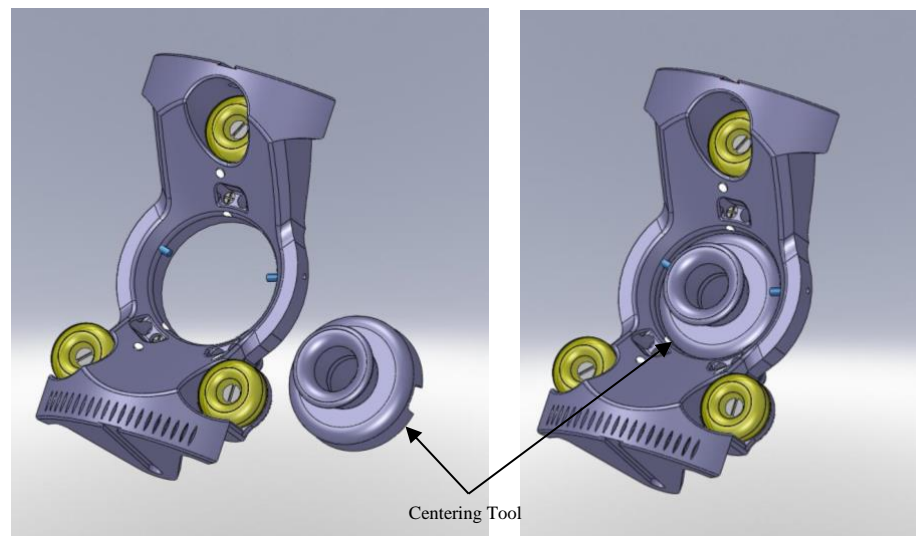

Figure 3: Base Mounting Orientation
2. Position the Base over the Centering Tool or visually center the Base over the burr hole with the single yellow fiducial marker in the up position. **See Figure 3.**
3. Using the supplied screw driver, mount the Base with the three (3) pre-mounted self-tapping screws to the skull.
**Note:** **In the event a replacement screw is required for securing the Base, additional Skull Mount Screws (3) can be used. See "Associated Devices" in Section II for ordering information on Rescue Screws.**